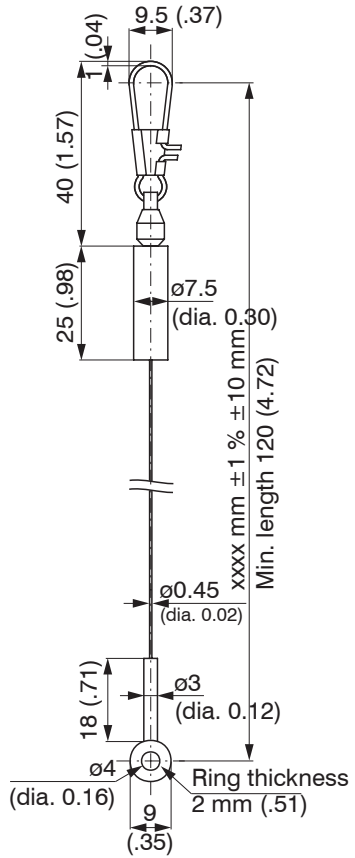

Fig. 14 Wire extension WE-xxxx-CLIP, dimensions in mm
- WE-xxxx-CLIP Wire extension with wire clip and eyelet, see Fig. 14, use for xxxx wire length in mm (max. 10,000 mm)